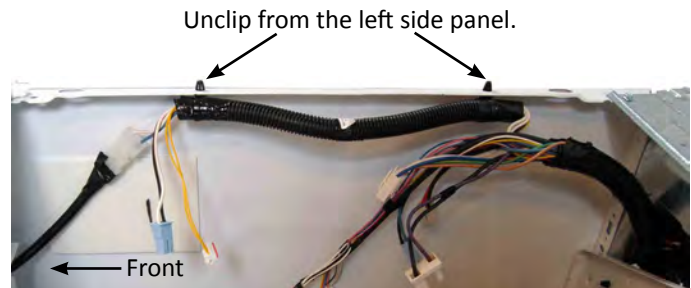

Figure 2
9. Unclip the two (2) upper harness clips that are located on the top-edge of the left side panel (see Figure 2).